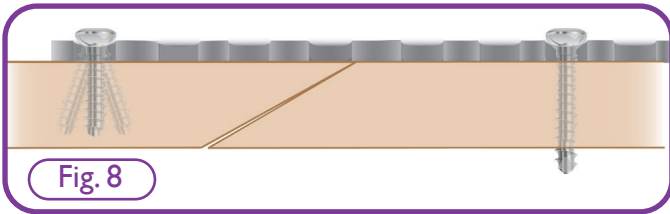

Fig. 8
- **The features of the plate** as sold by the manufacturer e.g. dynamic compression plate (DCP), dynamic locking plate (DLP), pancarpal arthrodesis plate, cuttable plate etc (Fig. 8).
- **All screws should engage both cortices.** This is because non-locking screws are not “angle-stable” in the plate hole i.e., they can “rock” or “toggle” in the plate hole; such toggling is much more likely for a uni-cortical screw compared to a bi-cortical screw. (Fig. 8).
Fig. 8 shows “toggling” of a uni-cortical non-locking screw that is not angle stable, on the left of the image; therefore bi-cortical application is recommended to avoid this instability, as shown on the right of the image.